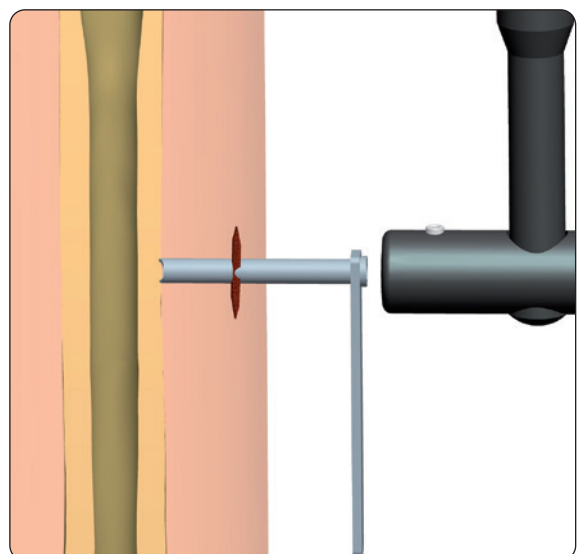

Fig. 3
3) Keeping the screw guide in contact with the cortex by gentle pressure, withdraw the trocar, and tap the screw guide lightly to anchor the pronged end against bone (**Fig. 3**).